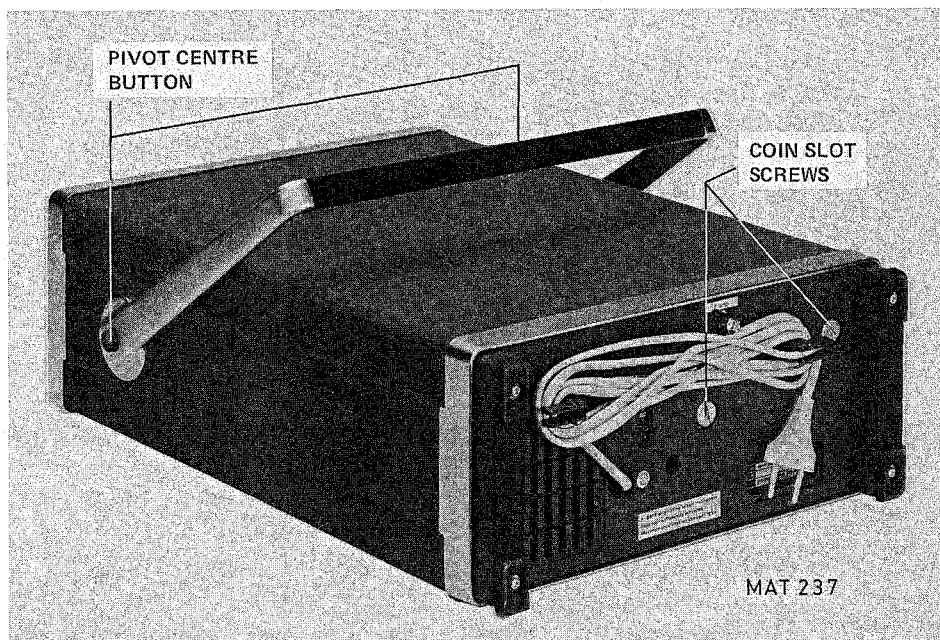

Fig. 3.1. Removing the instrument covers
- Hinge the carrying handle clear of the front cover; to this end, push both pivot centre buttons (Fig. 3.1.)